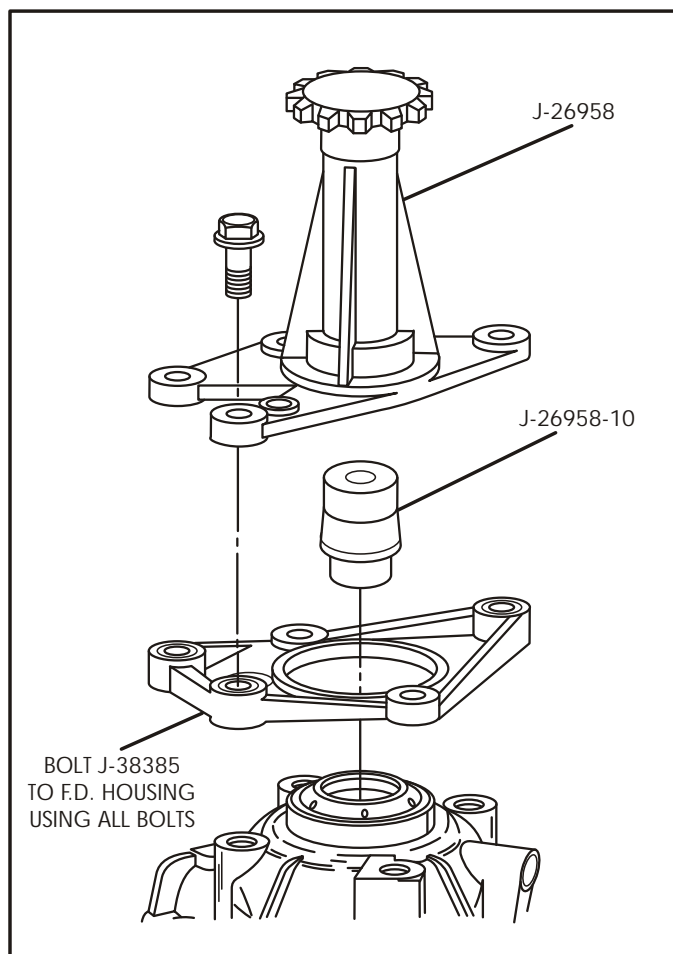

Figure 154
29. Remove the dial indicator set-up and install J-38358 and J-26958, along with the adapter J-26958-10, as shown in Figure 154.